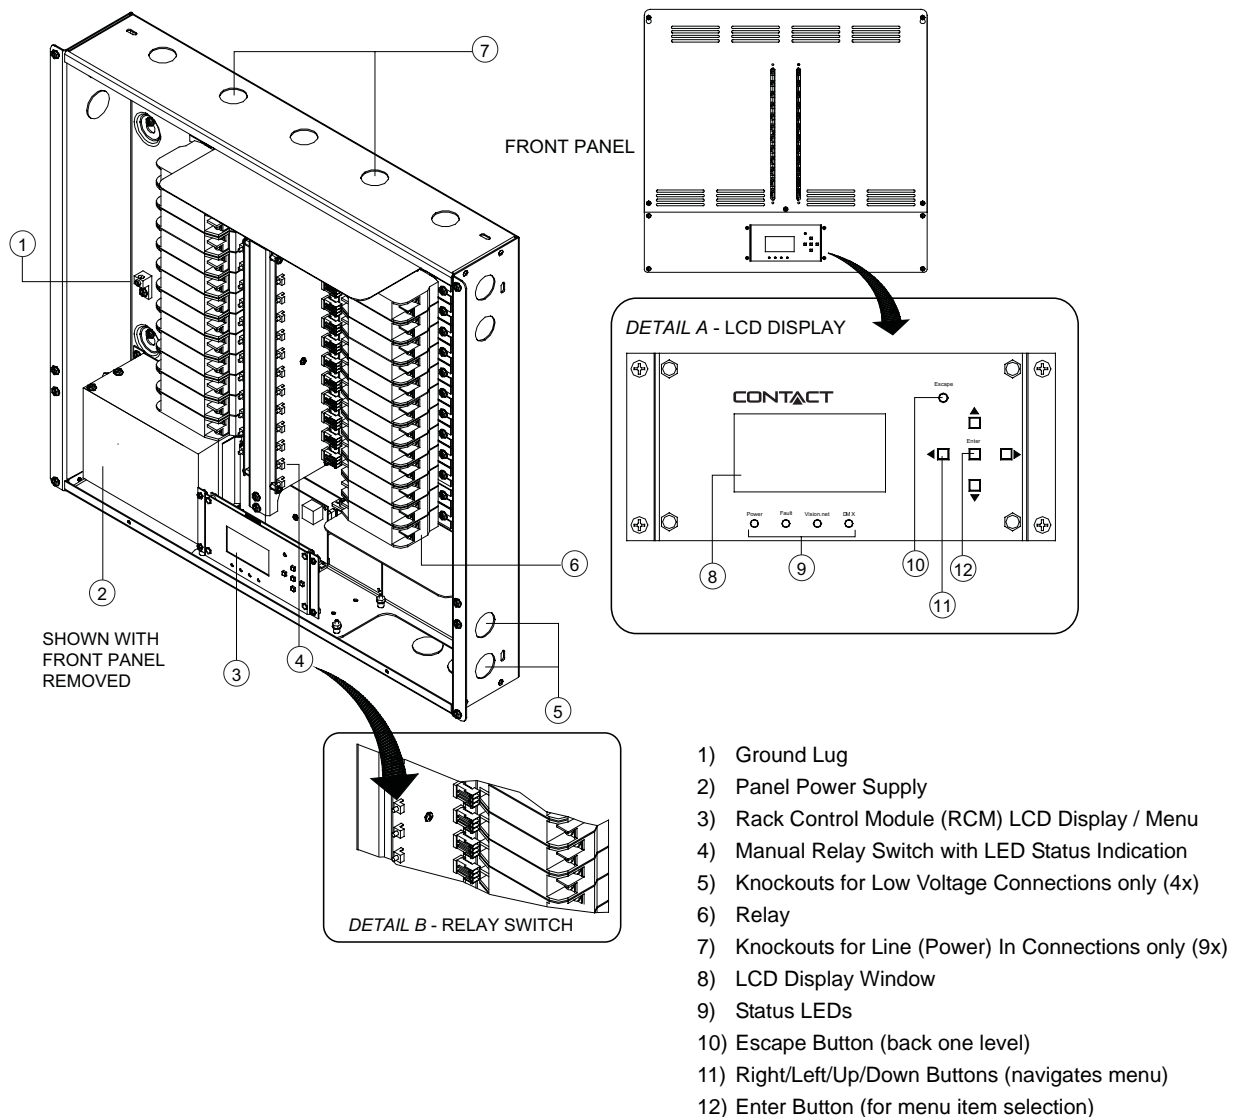
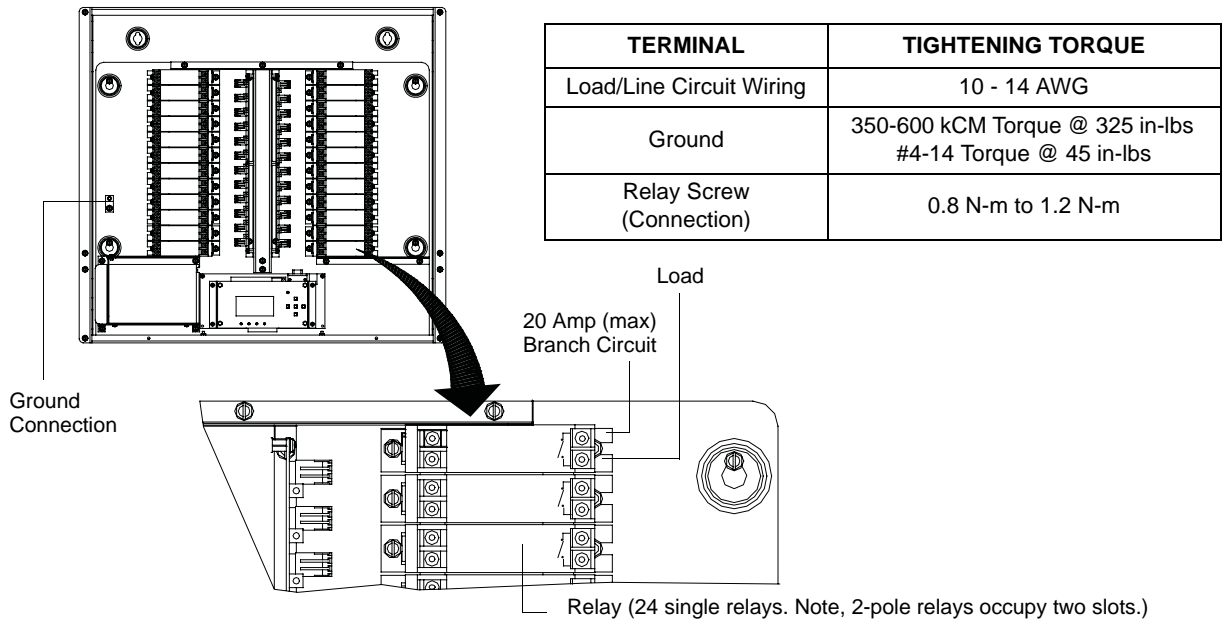

Figure 1: Lighting Control Panel Overview
Figure 4: Line/Load Wiring Connections
- Step 1. Install load and line wiring through knockouts. Refer to **Figure 1** on page 5 and **Figure 4** below.
- Step 2. Connect proper grounding (**Figure 4**).
- Step 2. Remove knockout(s) as required. See **Figure 1** on page 5.